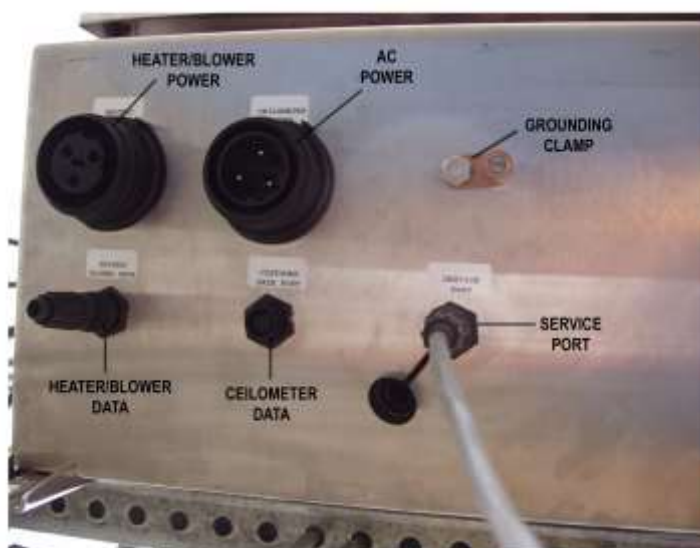

Figure 8. Ceilometer Connectors
2. Connect the power cord's circular connector to the INPUT POWER connector on the underside of the Ceilometer (see Figure 8).
1. Connect the data cable's circular connector to the CEILOMETER DATA connector on the underside of the Ceilometer (see Figure 8).
Connect the optional Heater/Blower's power cord to the HEATER/BLOWER POWER connector on the underside of the Ceilometer (see Figure 8).
Connect the optional Heater/Blower's data cable to the HEATER/BLOWER DATA connector on the underside of the Ceilometer (see Figure 8).